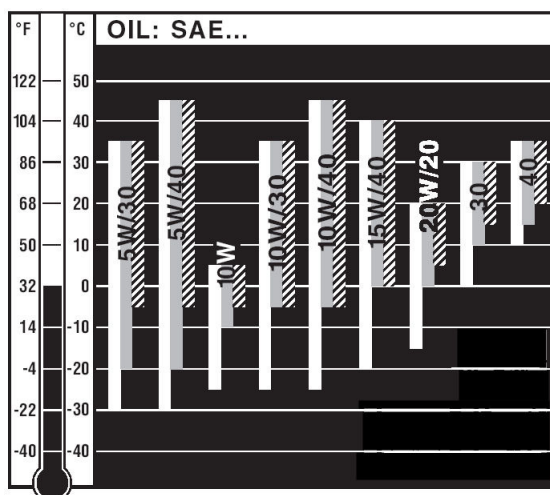

Fig 2-3 Oil SAE grades
6. If necessary, top up the oil (see *Fig 2-3*). Do not overfill.
8. Refill the sump with oil of the correct grade for the conditions (*Fig 2-3*) to the correct level, as indicated on the dipstick.